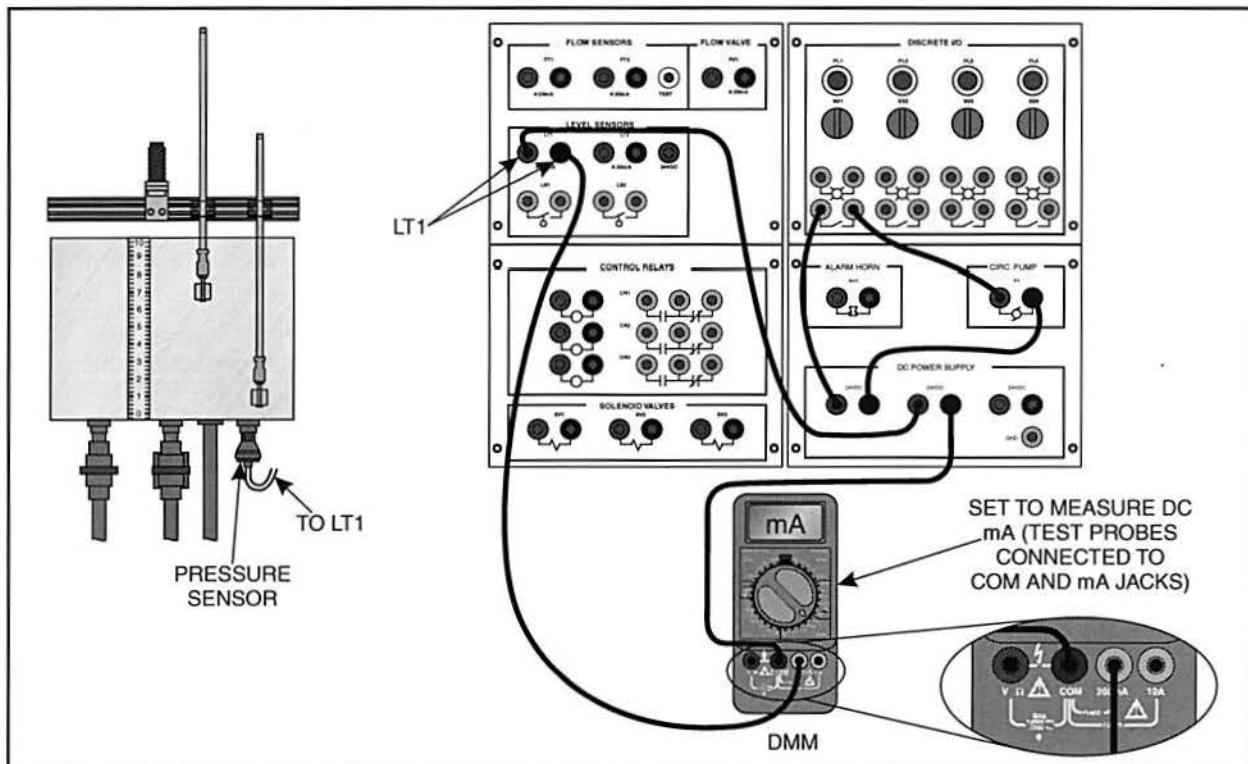

Figure 24. Circuit to Measure Pressure Sensor Output
- 3. Locate the pressure sensor attached to the bottom of the tank, as shown in figure 24.
The pressure sensor on the process tank of the T5552 is a variable capacitance type sensor. It has a current producing output with a 4-20 mA range. This sensor's leads are pre-wired to the output jacks on the control panel labeled LT1, as shown in figure 24.
- 4. Connect the circuit shown in figure 24.